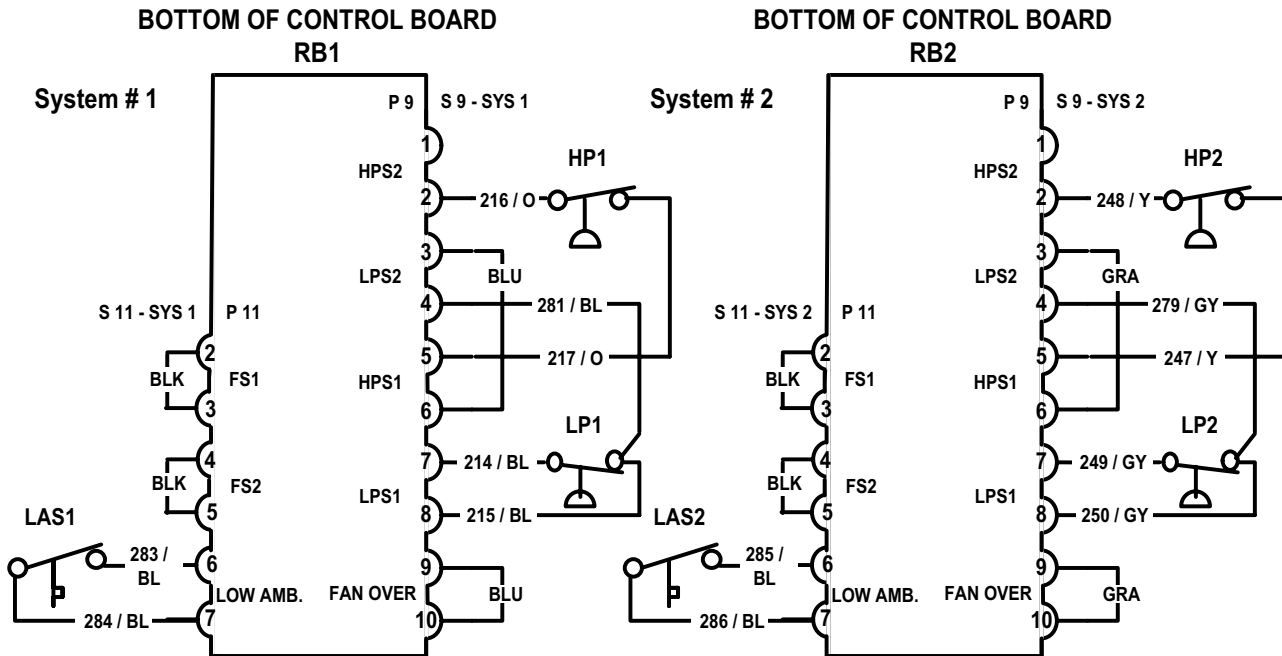

FIGURE 8 - LAS-LOW AMBIENT SWITCH WIRING LOCATIONS
14. Remove existing low ambient switch (LAS) (See Figure 8), located in the unit control box, and replace with new 0° low ambient switch (provided).